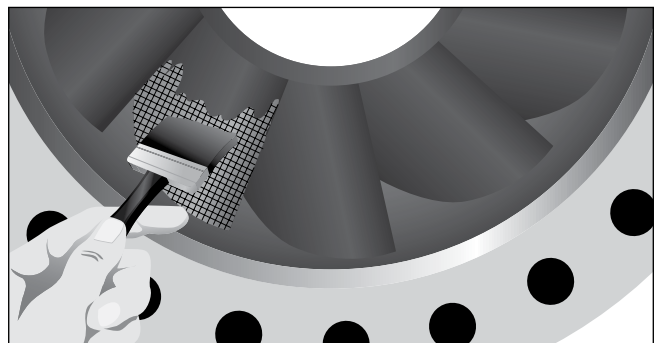

Figure 5. Two coats of Loctite® Nordbak® Brushable Ceramic seal the metal and provide a low-friction surface
- 4. Finish:** To finish the repair, brush apply a 15 to 20 mil coating of Loctite® Nordbak® Brushable Ceramic to entire impeller area, filling in porous spots in the casting. Once the first coat has cured, apply a second coat of Loctite® Nordbak® Brushable Ceramic. (See Figure 5)